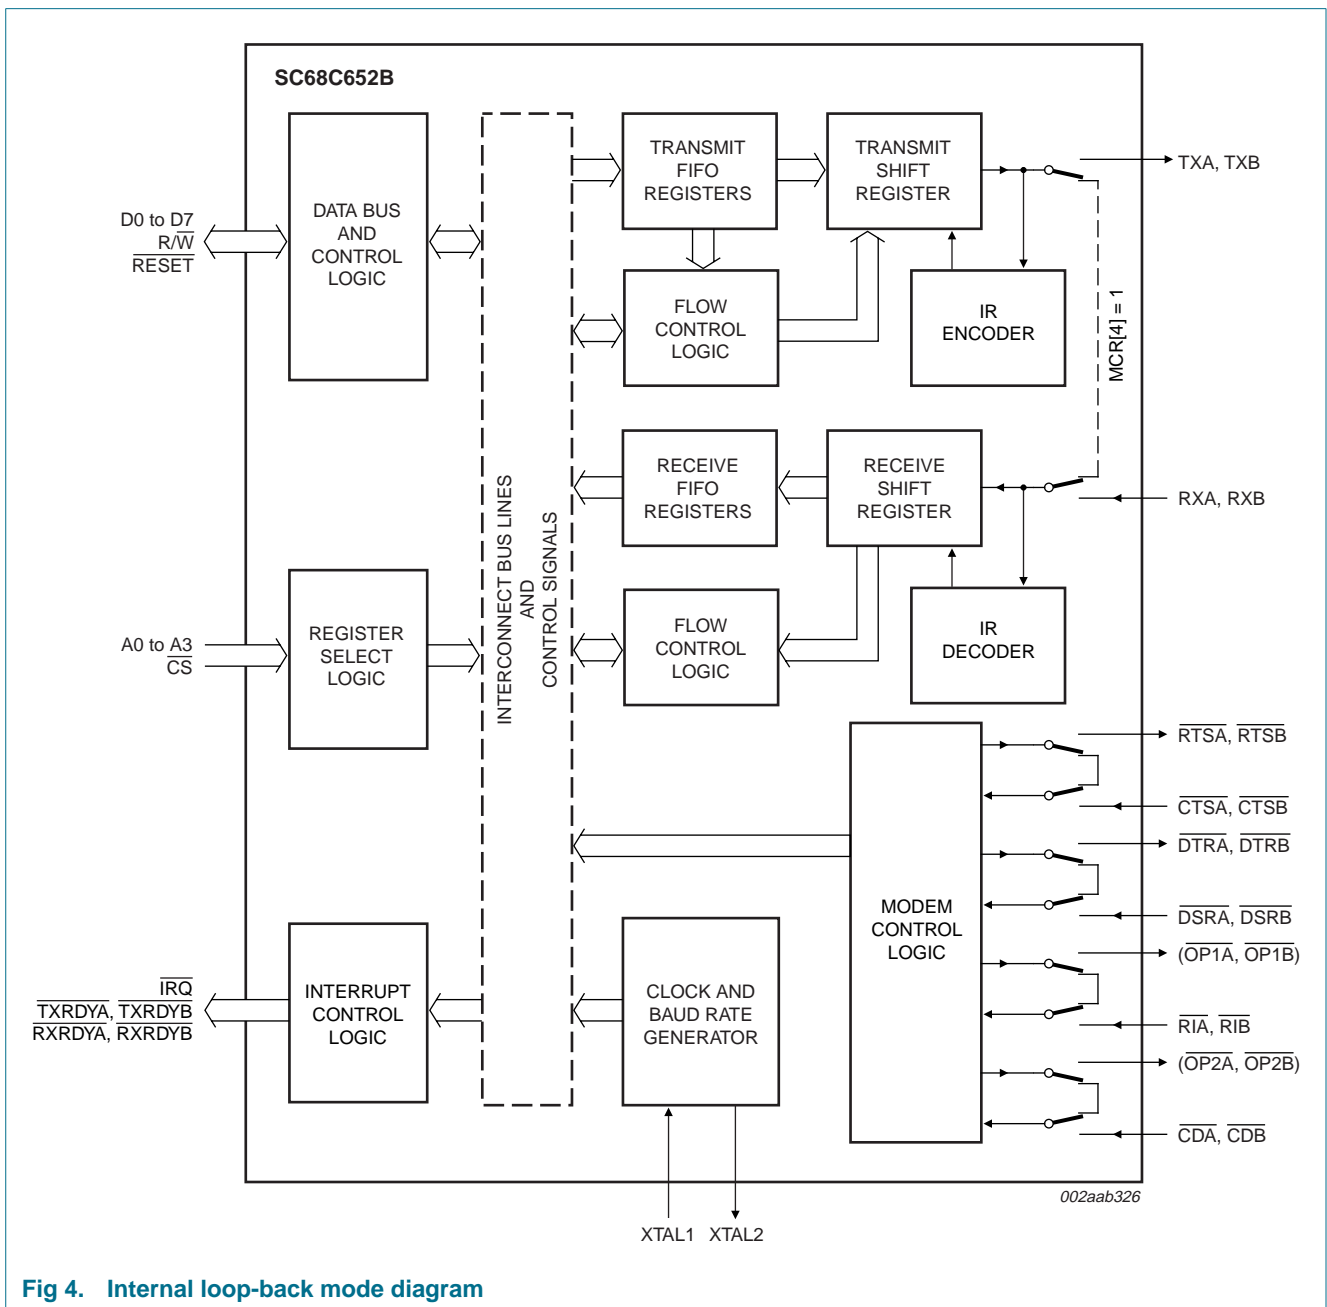

Fig 4. Internal loop-back mode diagram
The internal loop-back capability allows on-board diagnostics. In the loop-back mode, the normal modem interface pins are disconnected and reconfigured for loop-back internally (see Figure 4). MCR[0:3] register bits are used for controlling loop-back diagnostic testing. In the loop-back mode, the transmitter output (TX) and the receiver input (RX) are disconnected from their associated interface pins, and instead are connected together internally. The $\overline{\text{CTS}}$, $\overline{\text{DSR}}$, $\overline{\text{CD}}$, and $\overline{\text{RI}}$ are disconnected from their normal modem control inputs pins, and instead are connected internally to $\overline{\text{RTS}}$, $\overline{\text{DTR}}$, MCR[3] (OP2) and